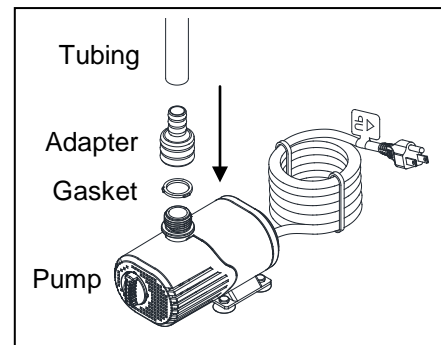

Fig. 1
1. Connect tubing to the outlet of the pump with the appropriate adapter and gasket. If using pump in water, place the pump into the water and proceed to step 4, if using as an inline unit (out of water), proceed to step 2. Fig. 1